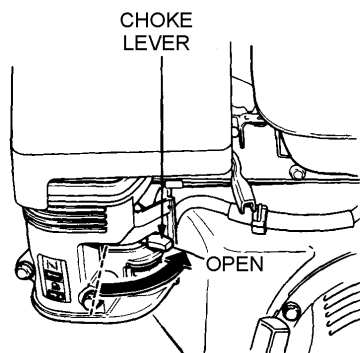

Figure 13. Choke Lever (Open)
7. If the engine has started and the choke lever was moved to the **CLOSED** position to start the engine, gradually move the choke lever to the **OPEN** position (Figure 13) as the engine warms up. If the engine has not started repeat steps 1 through 6.
9. To begin pumping, place the throttle lever (See Figure 13) in the **RUN** position. If water is not flowing out of the discharge port, turn off the engine and check for and clear any obstructions within the suction hose.